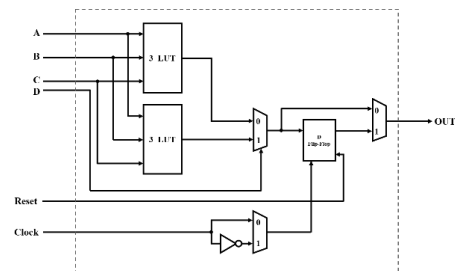

Fig. 1. Configurable Logic Block
a. Configurable Logic Block: In the proposed design customized 4 input Configurable Logic Blocks (Fig. 1) are used as the main logic unit. The CLBs also contain a memory element (D Flip-flop). 2 LUT (Look-up Table) with 3 input pins are used as basic logic elements [4]. So, the CLB has two modes. One is 3 input mode and another is 4 input mode. The main building block of LUTs is MUX. We use the selector pin of the MUX as the input of desired digital logic equation. The MUX input pins are connected to the output of the dedicated